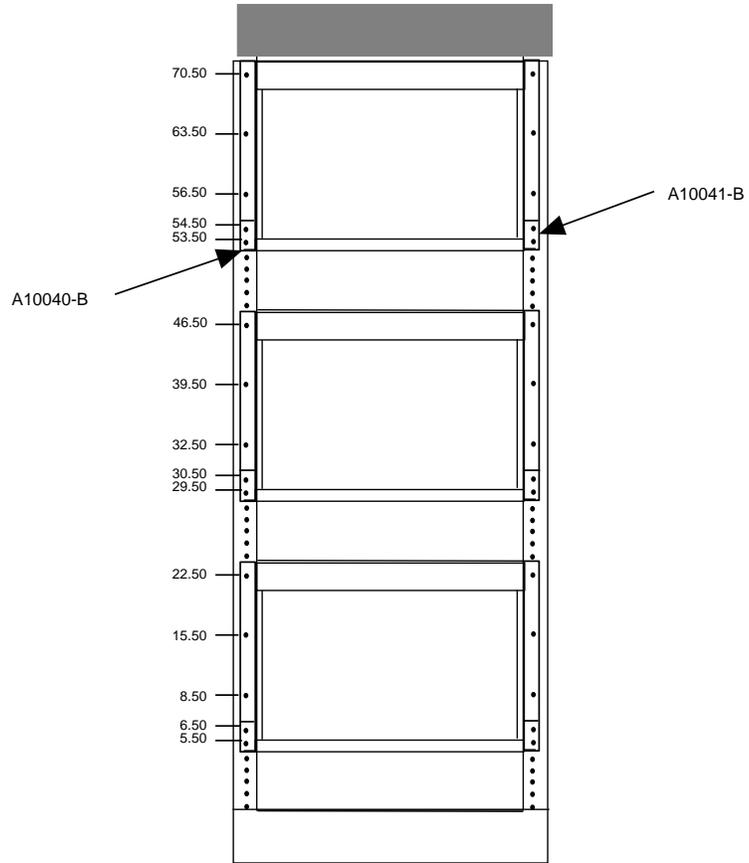

Figure 2-20. Mounting Locations on the Common ESS Frame
1. Locate and attach the two support brackets (A10040-B and A10041-B) to the frame (Figure 2-20) beginning with the lowest frame location.